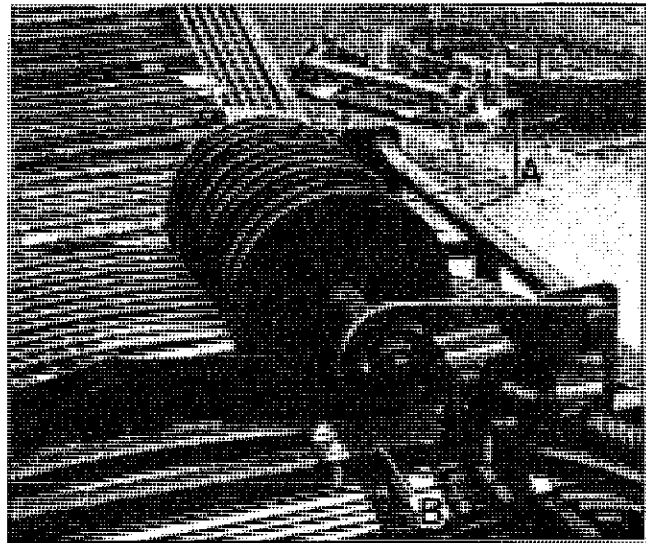

Figure 2.27: Stripper Adjustment. (A) - Stripper Disks; (B) - Stripper Supports.
The wheel elevator (A) (see Figure 2.25) revolves at approximately 11 rpm at 1000 PTO rpm. The beets are carried up to the truck elevator as the wheel revolves in the direction of travel. The retainer (B) holds the beets in the wheel until they get to the top and fall into the truck elevator. The stripper (see Figure 2.27) clears the wheel of any rocks or beets that get wedged between the rods, and helps clear mud. The stripper must be centered to clear the wheel.
The stripper is an adjustable device fitted with several disks which help to keep the elevator clear of rocks, trash and soil build-up. The stripper disks (A) (see Figure 2.27) must be centered between the wheel elevator rods so they do not make contact. Adjust position so disks do not hit the cross tube weldments of the wheel. Position approximately 10 inches from the back of 2 x 2 square tubes.
Straighten elevator rods if bent during shipping. Turn the wheel elevator through one or two complete revolutions and slide stripper supports (B) (see Figure 2.27) right or left to eliminate interference.